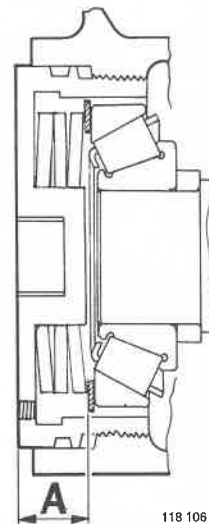

Fig. 92-84. Cover measurement
23. Remove the bolt in the trailing cover hole. Screw in the cover so that the measurement A measured through the hole is 20.1 mm (0.8"), see Fig. 92-84. Screw in the bolt.